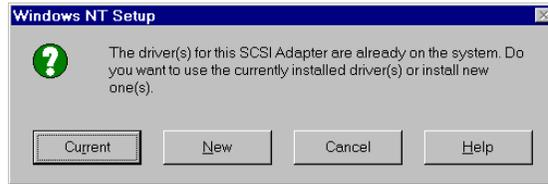

Figure 3-16. Install the Accelerated Driver from Diskette
19. If there is an existing Mylex driver in the system you will see the box shown below in Figure 3-16. Click New to install the new driver from the diskette.